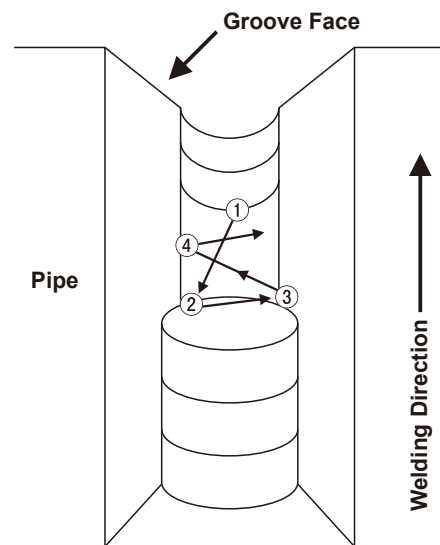

Fig. 5 — The Backstep Technique in Vertical-Up Position Welding of Pipes
- (2) Use the backstep technique at arc starting to prevent the occurrence of porosity at the starting area of the weld bead as illustrated in Fig. 5. This figure shows the backstep technique in the vertical-up position when welding a horizontally fixed pipe. This is a common practice for all low hydrogen electrodes.